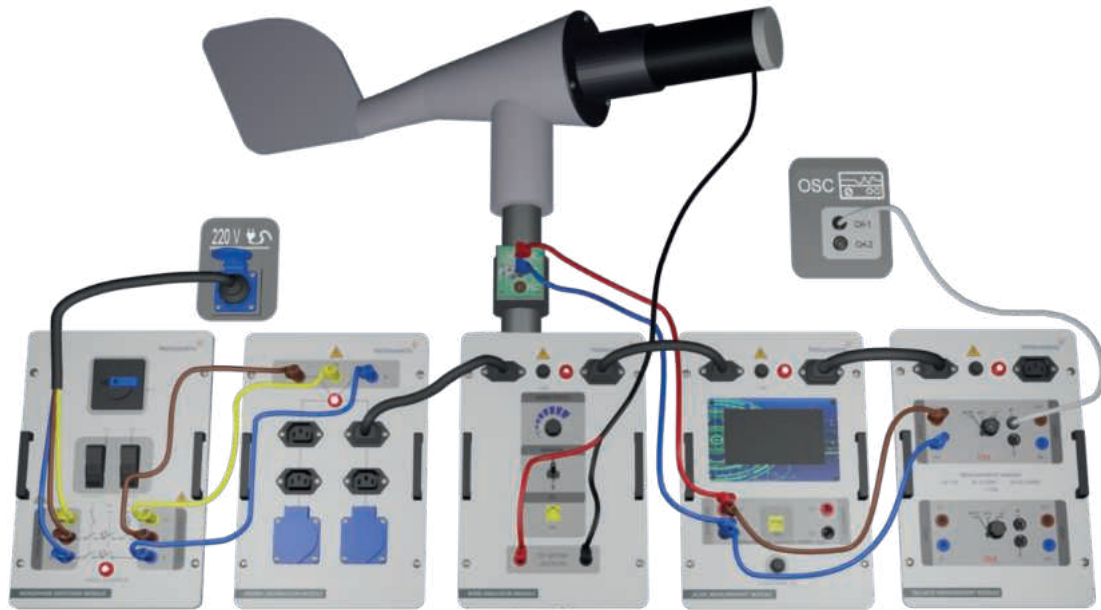

Figure-74. Installation Image of Examination of the Relation between Wind Speed and Turbine Operation
1. Make the connection as illustrated in Figure-74. Lock the caster of the wind turbine to prevent any movement.